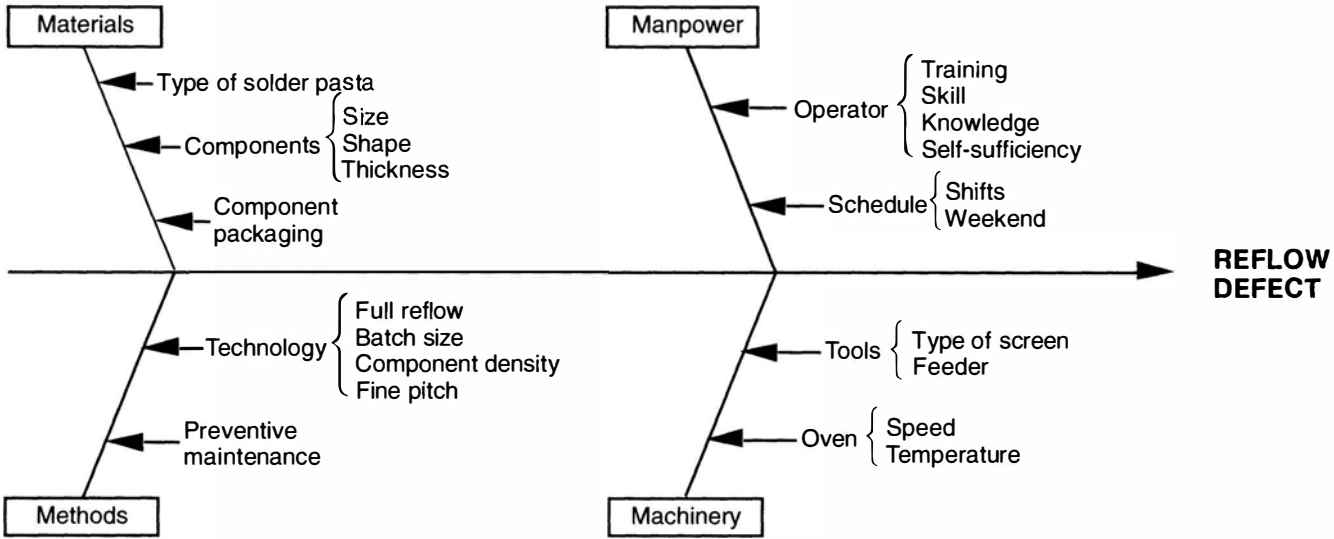

Figure 1 Cause and effect diagram
- 3 Draw a cause and effect diagram (see Figure 1).
The example shown in Figure 1 examines the possible causes of solder defects on a reflow soldering line. The group looked at all the possible causes and classified them under the main headings as shown. The cause and effect diagram was then used to plan data collection to discover the root cause.